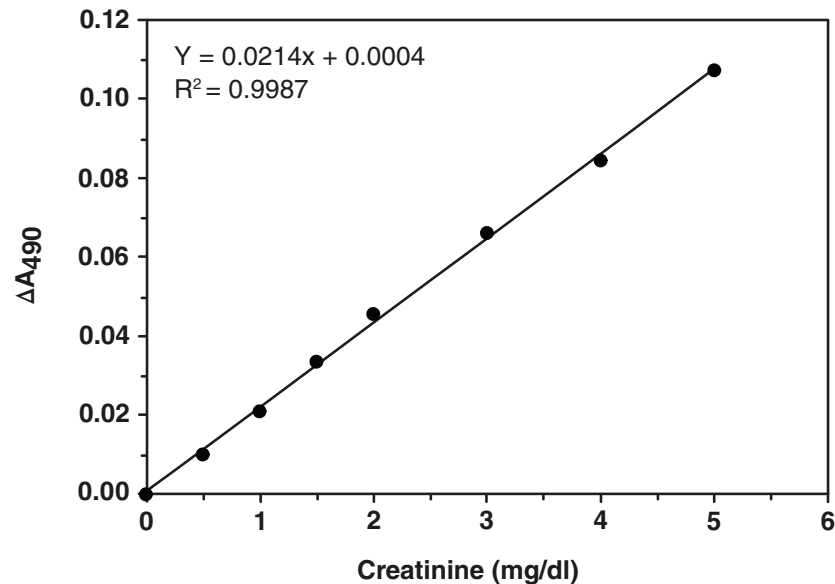

Figure 3. Typical creatinine standard curve
3. Plot the adjusted  $\Delta$ O.D of the standards (from step 2 above) as a function of the final concentration of creatinine from Table 2. See Figure 3, on page 17, for typical standard curve.